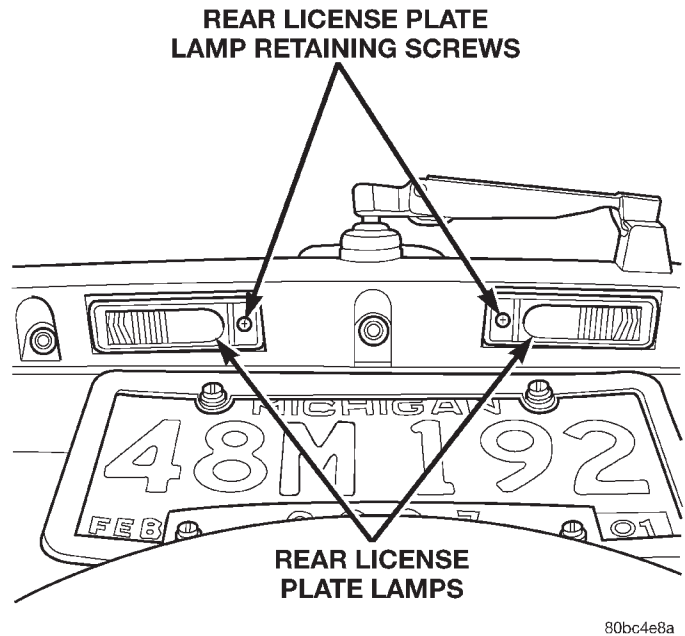

Fig. 7 Rear License Plate Lamps
- (1) Remove the rear license plate lamp retaining screw (Fig. 7).